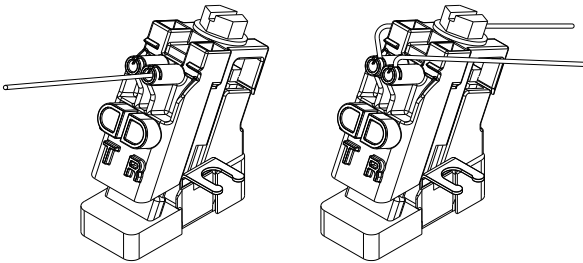

Figure 3
6. Dress the wires through the strain relief slots to hold them in place (See Figure 3).